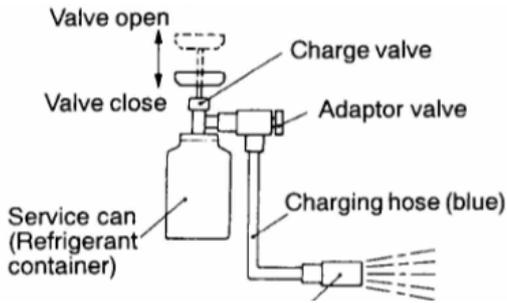

Fig. 18-6
7. Refill refrigerant by the service can when refrigerant is insufficient (Fig. 18-6, 18-7, 18-8)